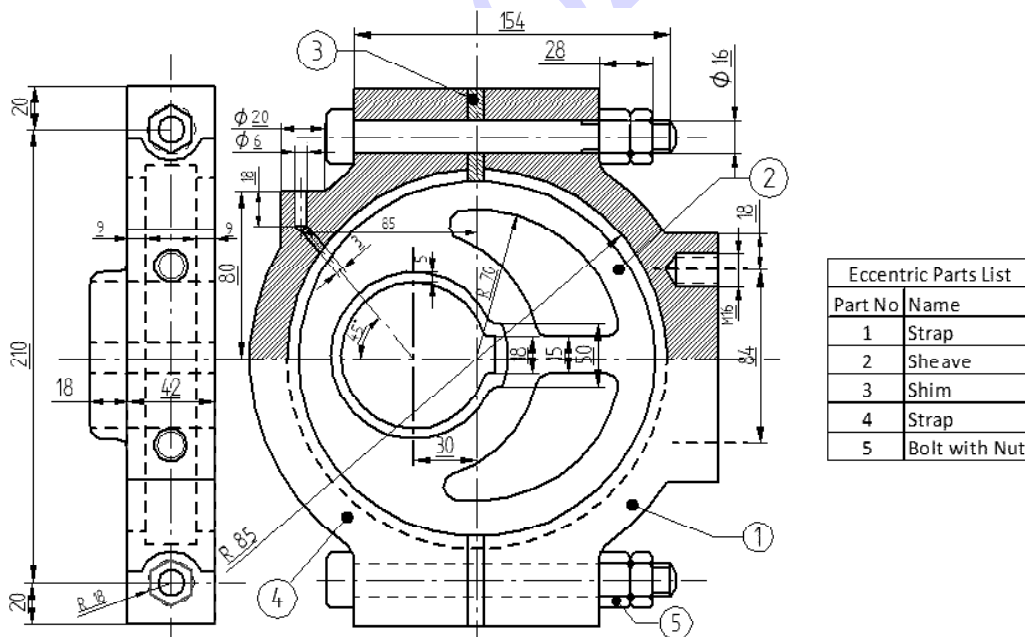

Fig.1(Eccentric)
5) Study the given assembly drawing of Eccentric given in the fig. 1